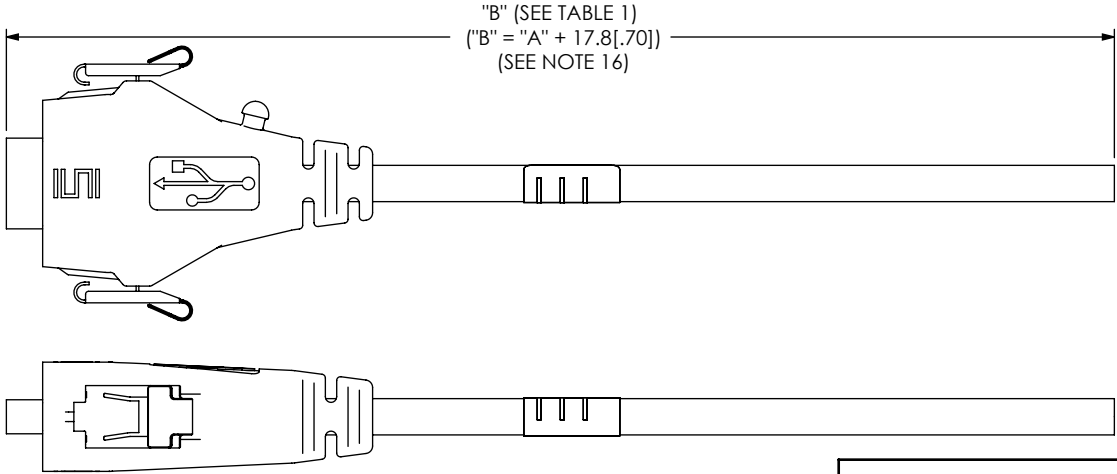

FIG 3
-BC: BLUNT CUT (SEE SHEET 2, FIG 3)